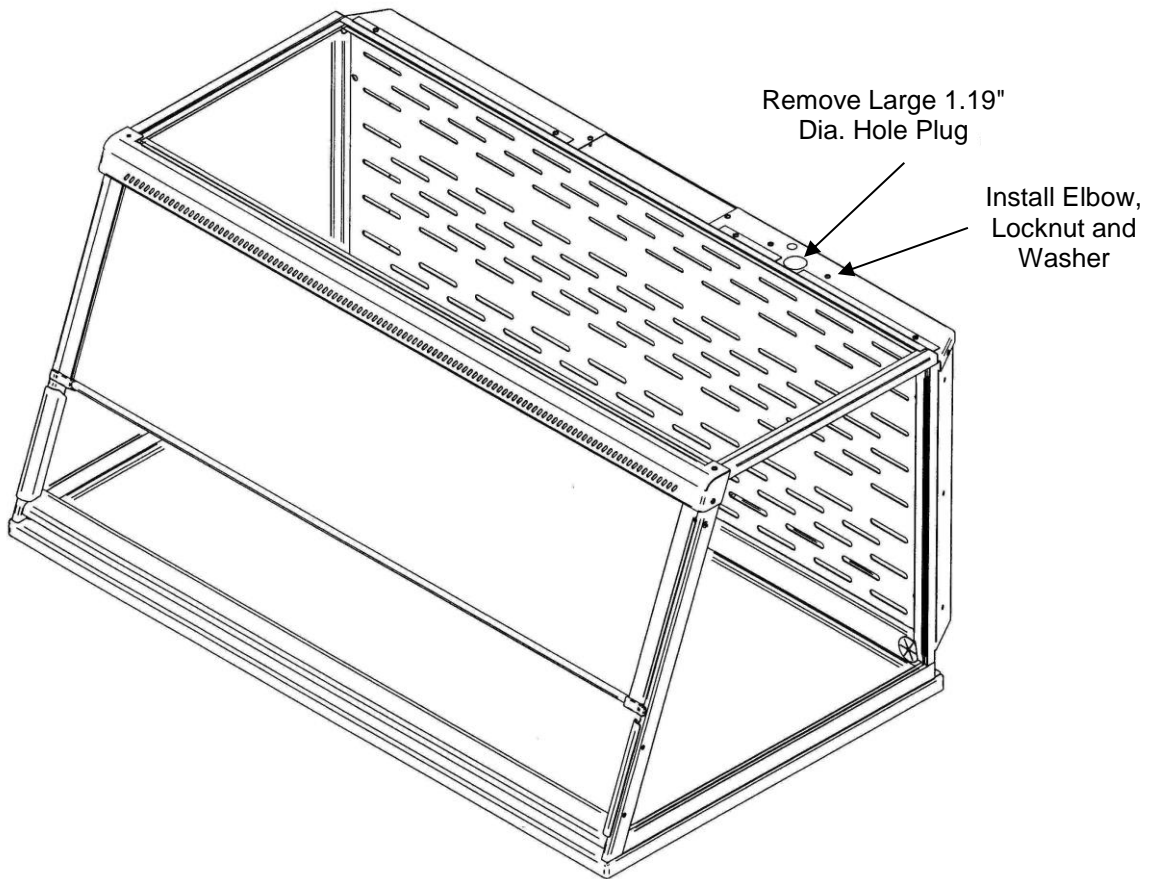
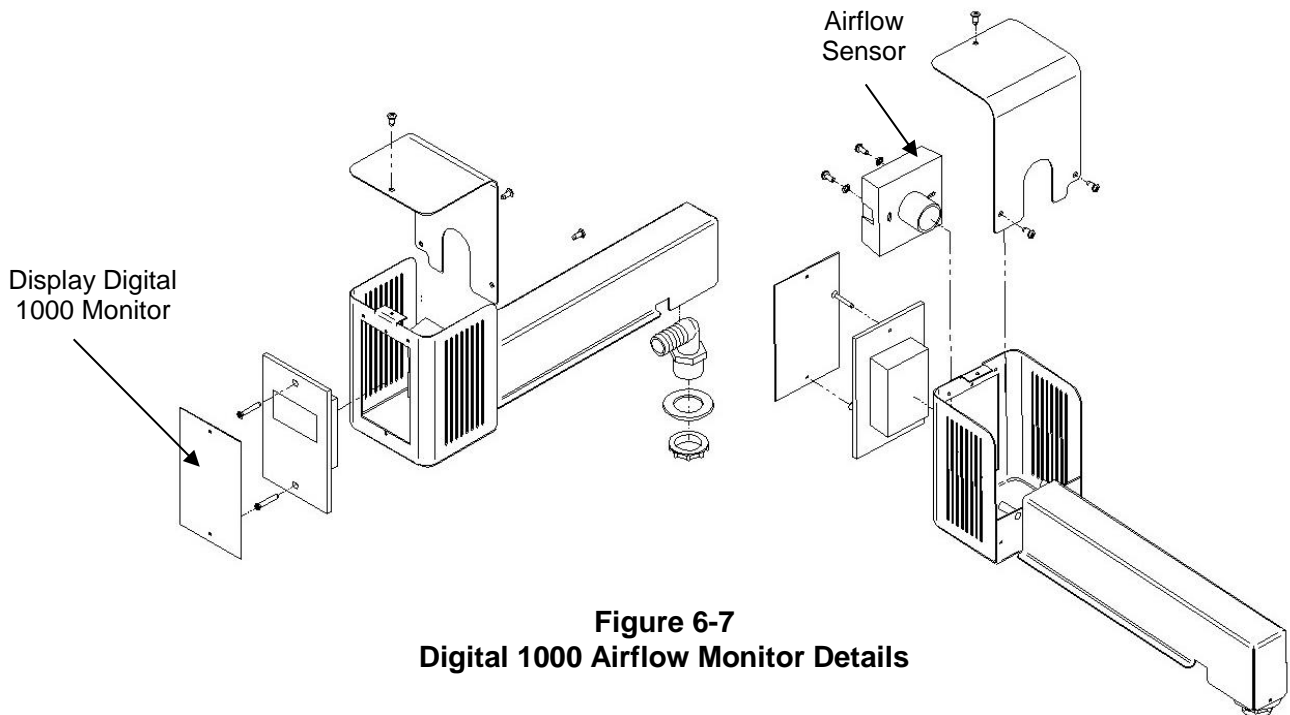

Figure 6-6
Figure 6-7
2. First remove the large 1.19" dia. gray hole plug. See Figure 6-6. See Figure 6-7 only to reference internal assembly of the airflow monitor. Locate the elbow, locknut, and washer and install it in the 1.19" dia. hole per Figure 6-6 and Figure 6-7. The enclosure baffle pivots down to install the elbow, washer and locknut.